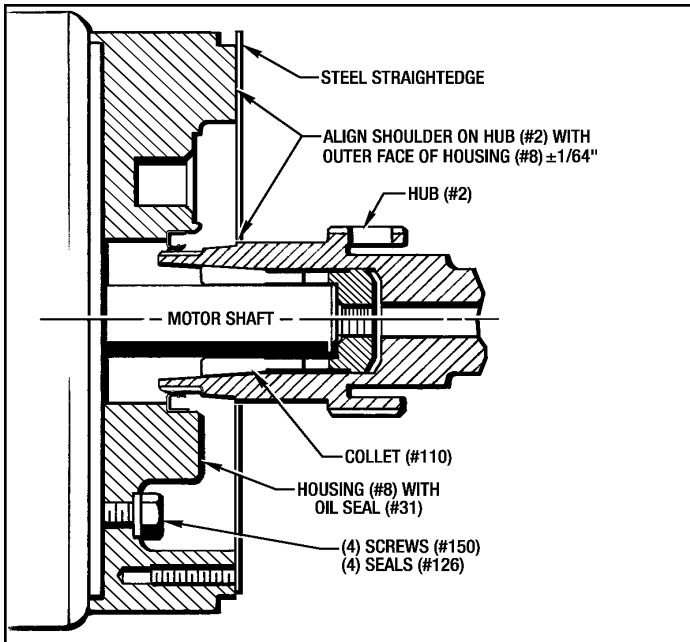
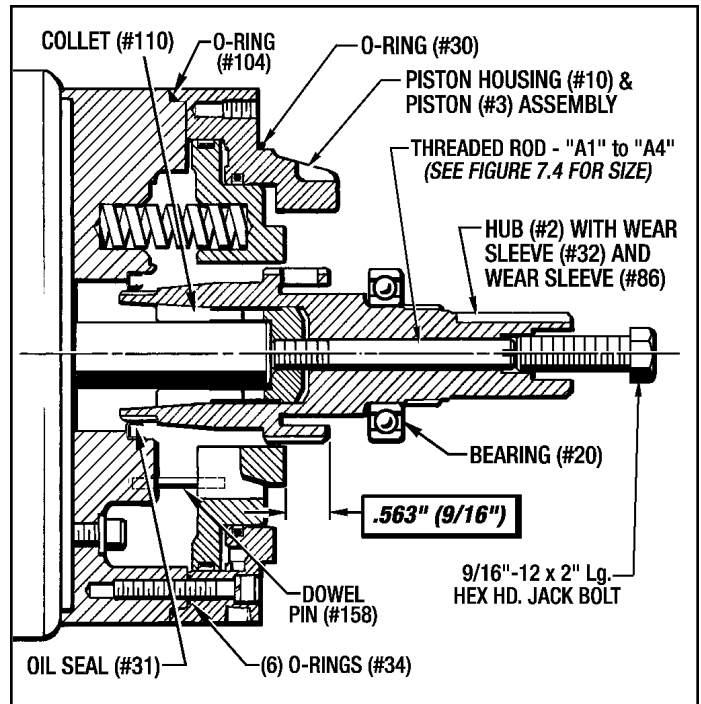

Figure 3.3 - Mounting Housing and Collet
Figure 3.4 - Installing Piston Housing Assembly & Hub
Place the Collet (#110) on to the motor shaft as far as it will go. (See Figure 3.3.)
- Slide the Hub (#2) over the Collet (#110) and into the Oil Seal (#31) as shown in Figure 3.3. If the Hub has an alignment shoulder, then align it with the outer face of Housing (#8) within $\pm 1/64$ ". If the Hub doesn't have the shoulder then use the procedure in Step #10 & shown in Figure 3.4.
- Place the Springs (#36) back into the appropriate pockets. You can use white grease to hold the springs in place. (See Figures 3.4 and 9.2.)
- If the O-Ring (#104) was removed from the Housing (#8) then re-install it back on with a little White Grease to lubricate it. (See Figure 3.4.)
- Attach the Piston Housing (#8) and Piston (#3) Assembly with (6) Screws (#153) and (6) Lockwashers
(#127). Align the Pin (#158) in the Piston with the hole in the Housing **Torque to 14 Lb. Ft.** (See Figure 3.4.)
- Position the Hub (#2) so the end of the spline is **.563" (9/16")** from the Piston Face. (See Figure 3.4)
- Install the correct Threaded Rod "A" into the Collet (#110) approx. 4 or 5 turns. **Hand tighten** the Jack Bolt into the end of the Hub (#2) just until it makes contact with the Threaded Rod "A". **Do not tighten any further.** (See Figure 3.4 above.)
- Lubricate the other O-Ring (#30) with a little White Grease and install it on the Piston Housing (#10). (See Figure 3.4.)
16. Install the End Housing (#9) to the Piston Housing (#10) with (8) Screws (#72) and (8) Lockwashers (#128) and finalize the Position Alignment of the Hub (#2) with the **Same Procedure described in Section 9-10 & 9-11.**